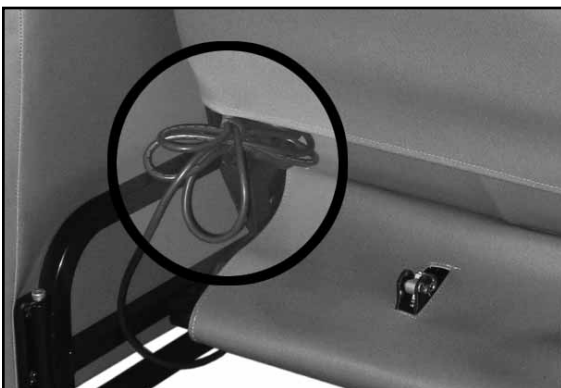

FIG. 1
1. Before transporting chair, or when heat & massage is not in use, power cord should be coiled and stored in the "Hook & Loop" fastener provided as shown, to prevent tripping on cord, damage to cord, damage to recliner, etc... **(FIG. 1)**